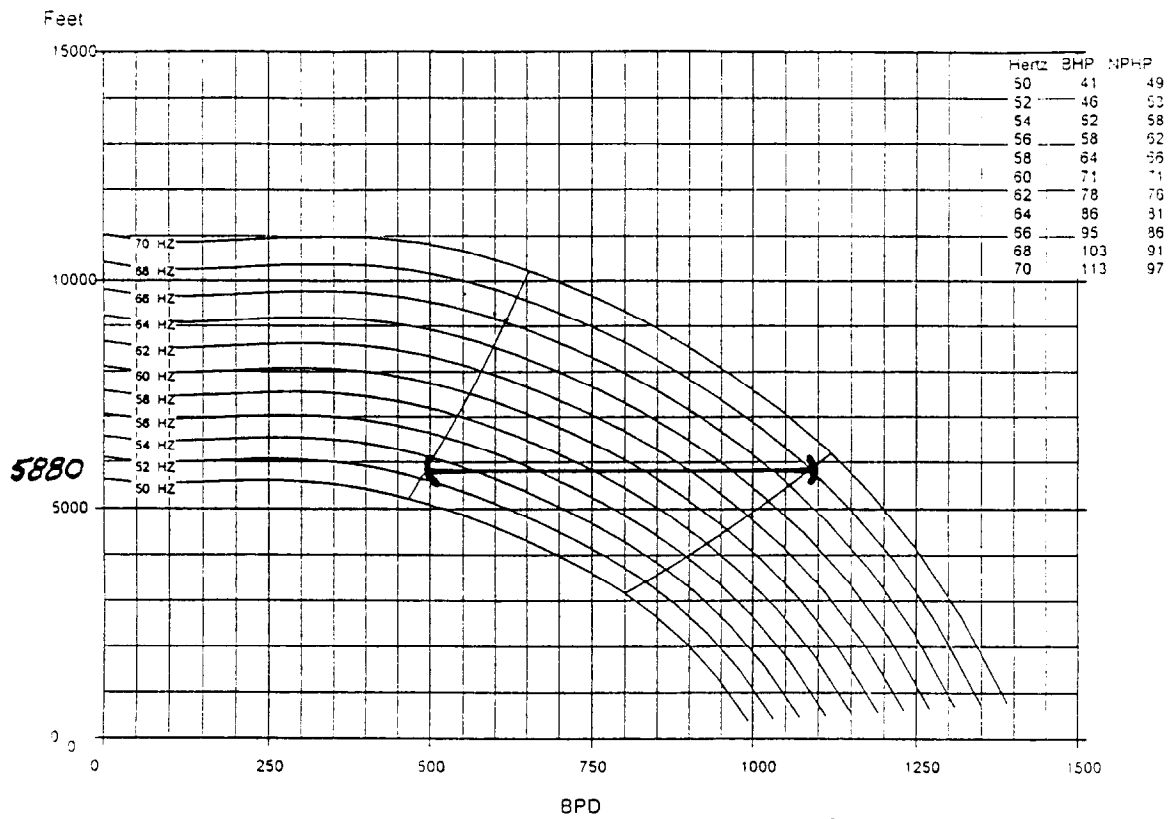

Figure 3 - Pump Performance Curve for a 280 Stage
5. Finally the motor horsepower for the pump can be determined. Figure 3 is the performance curve for a 280 stage TD750. The Pump Curve program also calculates the horsepower requirements for the different operating frequencies. For 1080 BPD the pump would be operating at 68 HZ. The horsepower table in the upper right corner shows that the pump will require 103 brake horsepower (BHP) at 68 HZ.